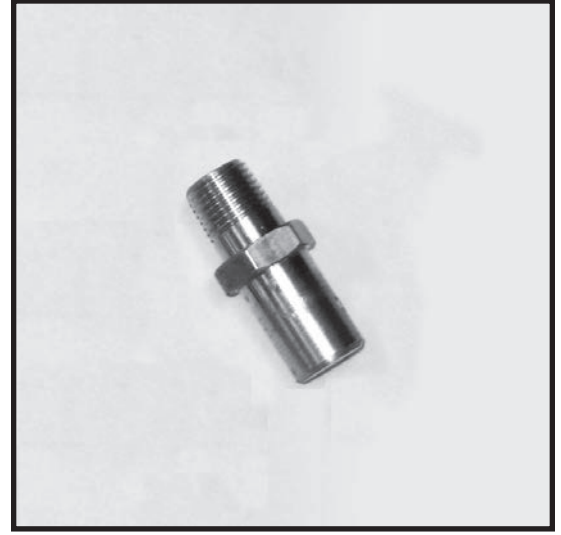

Figure 20: Orifice.
5. Install propane orifice (our part # 5022.3) (Figure 20).